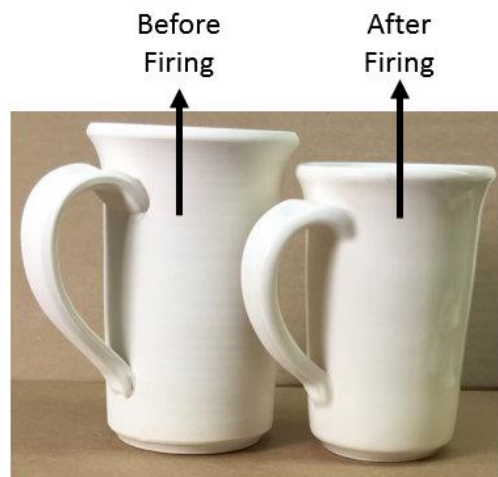

Figure 1[b]
- [b] (i) With the help of sketch, explain how the shrinkage defect of ceramic cup as shown in Figure 1[b] can happen during the firing process.